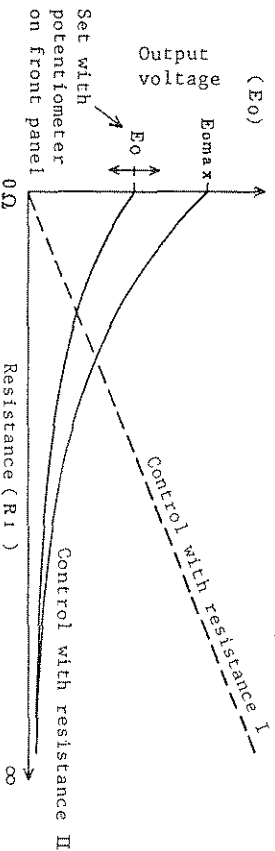
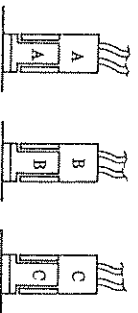
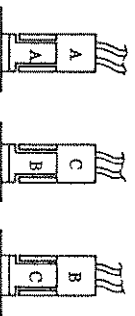

Figure 3-10
Figure 3-11
Figure 3-14
The output voltage (E_o) is inversely proportional to the external resistance signal (R_1) as shown in Figure 3-10. When the external resistance signal circuit is made open (the resistance has become infinite) due to switching of resistances or by inadvertent handling of the external resistance signal circuit, the output circuit is driven toward the safer side (the output voltage becomes zero volts).
- (1) Disconnect the input power cord. Remove the cover referring to Section 4-1-3. Remove PC board A-650.
- (2) Connect the connectors A, B and C on PC board A-650 for the mating symbols as shown in Figure 3-11. (See Figures 3-10 and 3-3.)
- (2) Change the connections of connectors A, B and C on PC board A-650 as shown in Figure 3-14. (See Figures 3-10 and 3-3.)
- (3) Connect the external resistance signal (R2) between terminals ④ - ⑤. ($0 \leq R2 \leq 10 \text{ k}\Omega$)
- (4) Throw the R/L switch to the L (local) position.
- (5) If the FINE VOLTAGE setting potentiometer has been modified for current setting, turn the potentiometer to the counterclockwise extreme position, remove its knob, and install the guard cap. (See Item (10) of Section 2-1.) (This procedure is not needed for the PAB10-0.6A, PAB250-0.25A and PAB350-0.1A which have no FINE VOLTAGE setting potentiometer.)
- (6) Paying attention so that the PC board is not contacted with the chassis, turn on the POWER switch and the OUTPUT switch.
- (7) Set R2 at 10 k Ω . Adjust potentiometer CC MAX on PC board A-650 so that the output current becomes the maximum rated current. This procedure is for full-scale adjustment. (See Figure 3-10.)
- (8) Carefully install the PC board and the cover.
- (9) Post the following seal on the transparent cover above terminals ④ and ⑤: